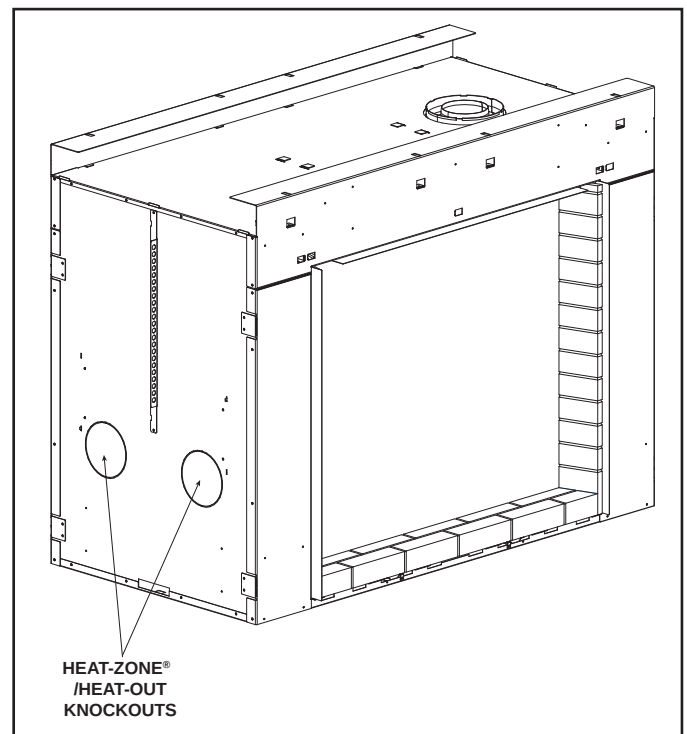

Figure 11.8 Heat Management Knockouts.
1. Remove one of the knockouts from the side of the appliance and discard it. See Figure 11.8.